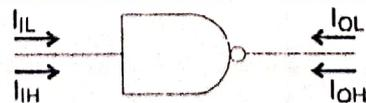

Fig. 10.30 Illustration of currents in a gate
- **Input and Output Currents** The important input and output currents are shown in Fig. 10.30.